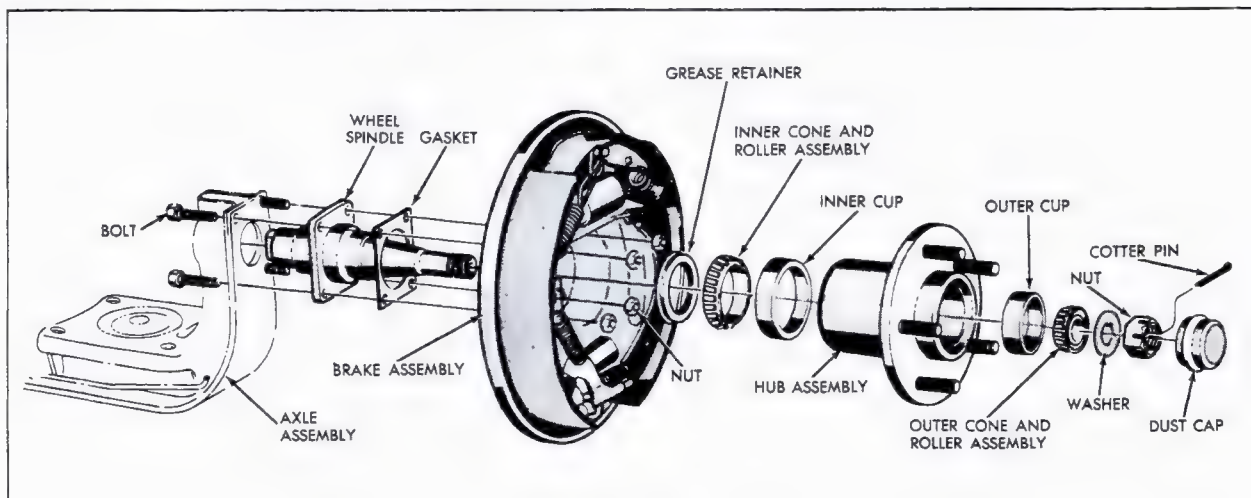

Fig. 4-35 Rear Wheel Disassembled
3. Remove dust cap, cotter pin, spindle nut, washer and outer cone and roller assembly, Fig. 4-35.
39. Rear Wheel Bearings and Grease Retainer (Fig. 4-35)